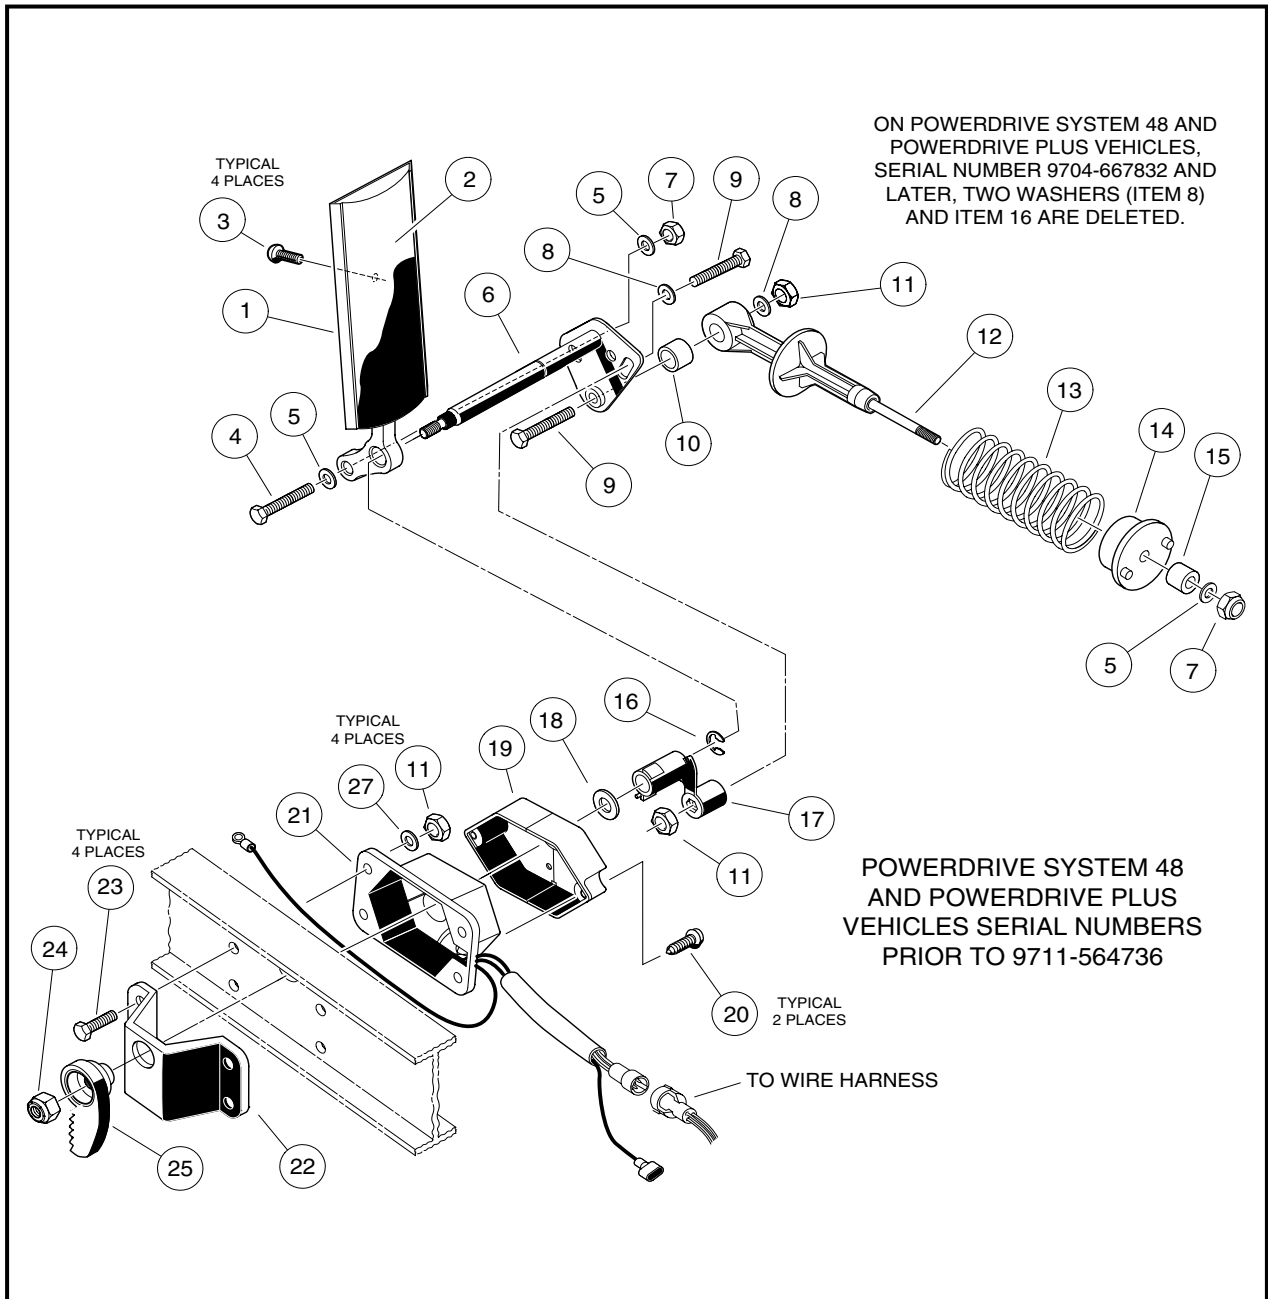

FIGURE 6-19
- 4.5. Rotate the actuator lever (17) on the pivot rod weldment (6) **(Figure 6-19, Page 24)** counterclockwise until the red LED on the test module goes out (limit switch clicks off). Then slowly rotate the actuator lever clockwise until the red LED is illuminated again (limit switch clicks on).